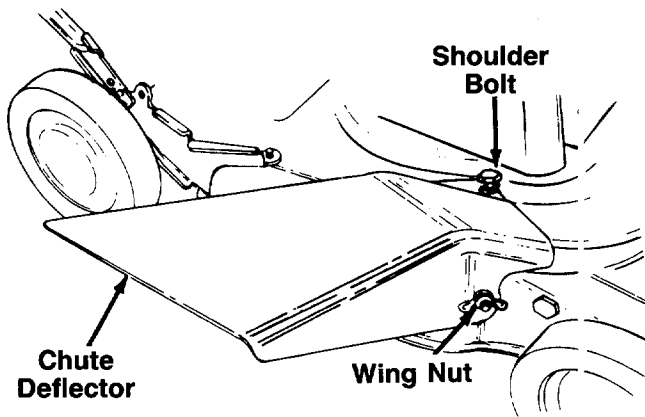
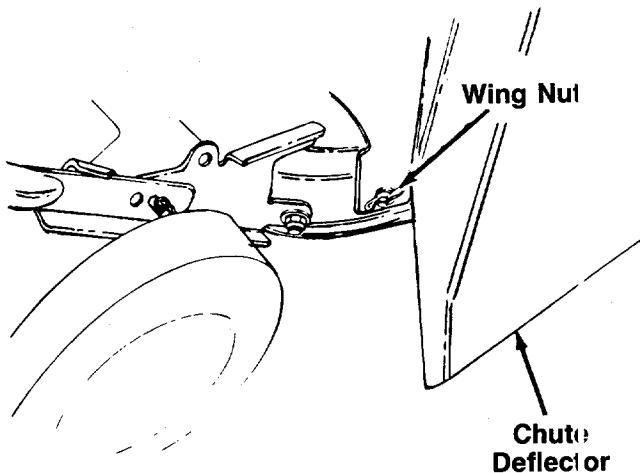

FIGURE 13.
FIGURE 14.
2. Attach the side chute deflector by first placing it over the rear bolt in the side of the deck. Then slide the notch in the top of the deflector around the shoulder bolt on top of the deck. Slide the notch in the side of the deflector around the front bolt in the side of the deck. See figure 13.
3. Secure the front of the chute deflector to the bolt on the side of the deck with one wing nut. See figure 13. Secure the back of the chute deflector in the same manner. See figure 14.